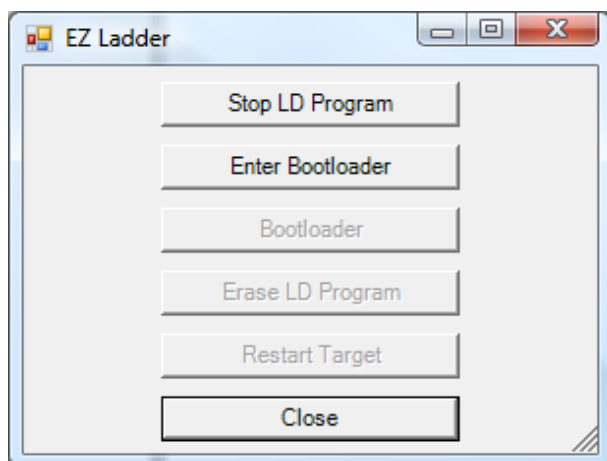

Figure 4-6
5. Press the **F11** key on your computer's keyboard. The dialog box in Figure 4-6 will open.